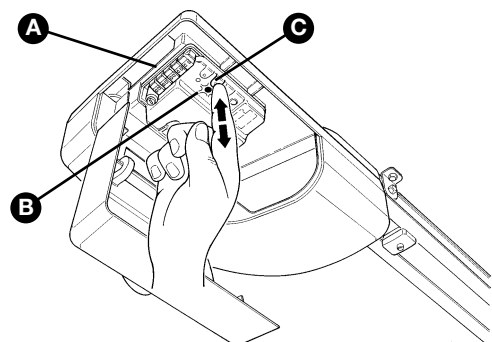

Figure 71
**1** On the control unit, press the P2 button **[C]** and hold it down for at least three seconds, then release the button (Figure 71).